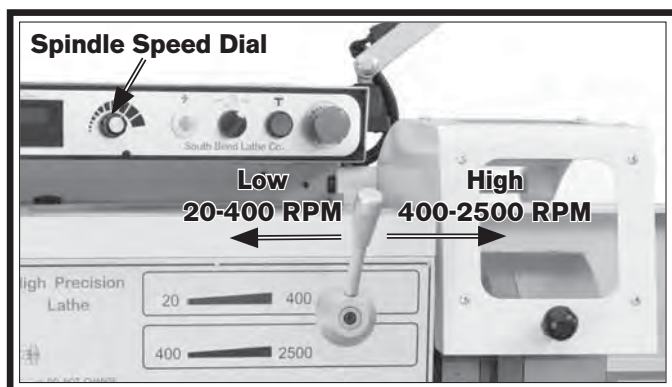

Figure 32. Spindle speed controls.
- Turn the lathe **ON**, and let it run for ten minutes in each speed of 20, 200, and 400 RPM, using the spindle speed dial (**Figure 32**) to adjust the speed.